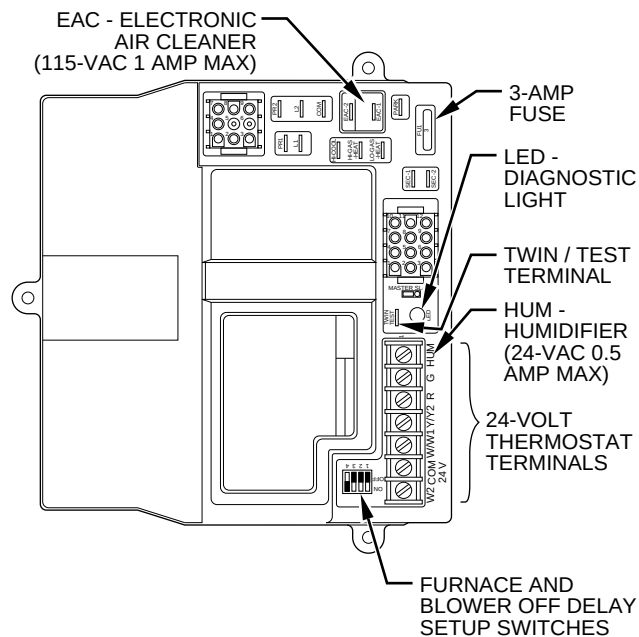
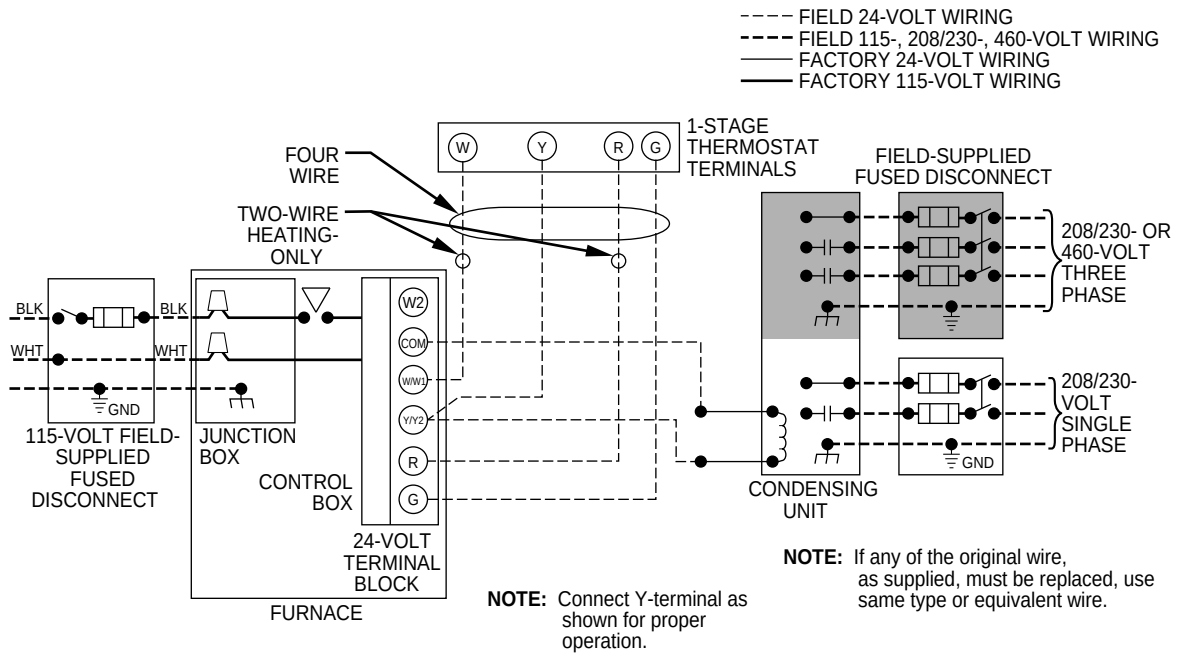
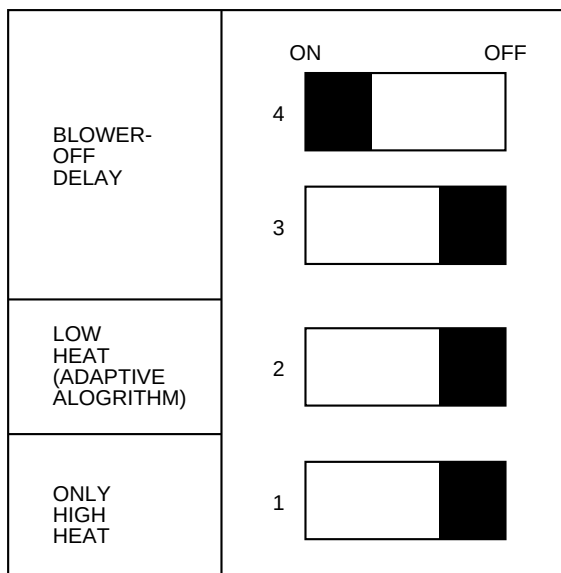

Fig. 11—Control Center
Fig. 12—Heating and Cooling Application Wiring Diagram With 1-Stage Thermostat and Condensing Unit
Fig. 14—Setup Switches on Control Center (Factory Settings)
Make field 24-v connections at the 24-v terminal block. (See Fig. 11.) Connect terminal Y/Y2 as shown in Fig. 12 or 13 for proper operation in cooling mode. Use AWG No. 18 color-coded, copper thermostat wire only.
A terminal block (EAC-1 [hot] and EAC-2 [neutral]) is provided for EAC connection. (See Fig. 11.) The terminals are energized with 115v, 1-amp maximum during blower motor operation.
Thermostat wire connections at R and W/W1 are the minimum required for gas heating operation. W2 must be connected for 2-stage heating thermostats. Com, Y/Y2, and G are required for cooling, heat pumps, and some clock thermostats. These must be made at the 24-v terminal block on the control. (See Fig. 11.)
For single-stage thermostats, connect thermostat W to W/W1 at the furnace control terminal block. (See Fig. 12.) For single-stage thermostats the control determines, based on length of previous heating on and off cycles, when to operate in low- and high-gas heat for optimum comfort. Setup Switch-2 (SW-2) must be in the factory-shipped OFF position. See Fig. 14 and Tables 6 and 7 for setup switch information.
(See Fig. 12 for thermostat connections.)
NOTE: With the high-heat-only switch SW-1 off, the low-heat-only switch SW-2 selects either the low-heat-only operation mode when on (see item 2. below), or the adaptive heating mode when off in response to a "call for heat." (See Fig. 14.) When the high-heat-only switch SW-1 is on, it always causes high-gas-heat operation when the R-W/W1 circuit is closed, regardless of the setting of the low-heat-only switch SW-2.